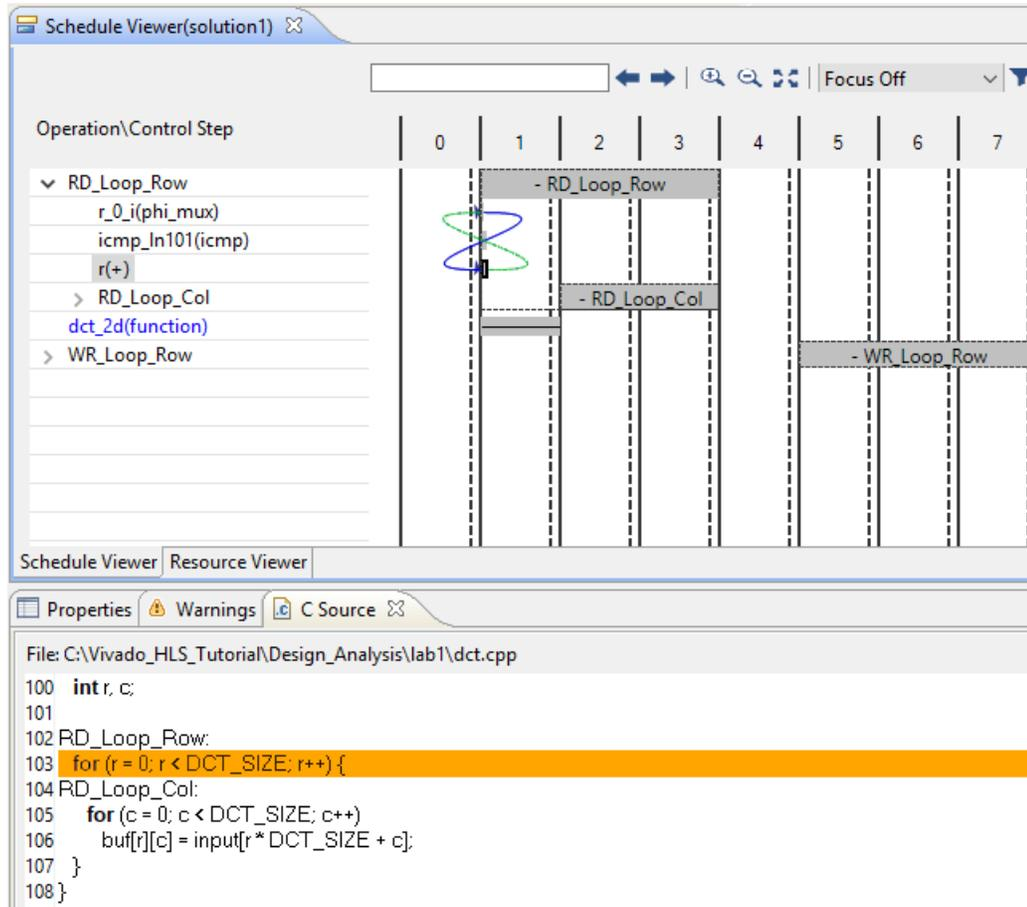

Figure 6-9: C Source Code View
3. Select the adder in state C1, right-click and select **Go to Source** (Figure 6-9).
- a. When the dialog box opens, press OK to select item 0.
This opens the C source code to highlight the operation in the C source that created this adder. From the details on screen (also shown in Figure 6-9), you can determine it is indeed the loop counter. It is the only addition on this line, and the variable is named “r”.